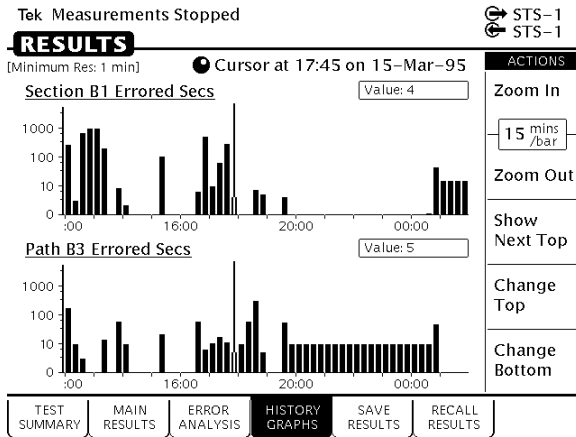

Figure 3–58: Bar Graphs Showing Code Violations and Errored Seconds
**Bar Graphs.** Bar graphs are used for most measurements (see Figure 3–58). There are two kinds of bar graphs: a count graph that displays code violations and pointer justifications and an errored seconds graph that displays errored seconds. Table 3–31 lists the different bar graphs that can be displayed.
**Line Graphs.** A line graph is used to display pointer movement history (see Figure 3–59). The vertical axis of the line graph ranges from 0 to the maximum, which is different for SPEs and VTs. There is only one measurement displayed as a line graph, as shown in Table 3–32.